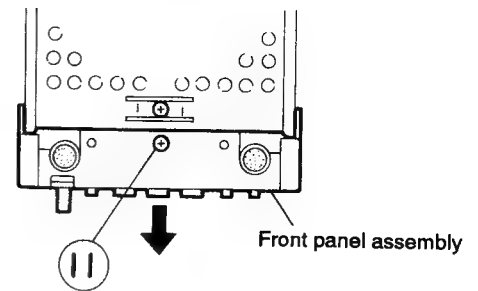

Fig. 5-15
### ■ Removing the front panel (See Figs. 5-15 ~ 5-17)
1. After turning over the body, remove the one screw ⑪ retaining the door holder from the front panel (See Fig. 5-15).